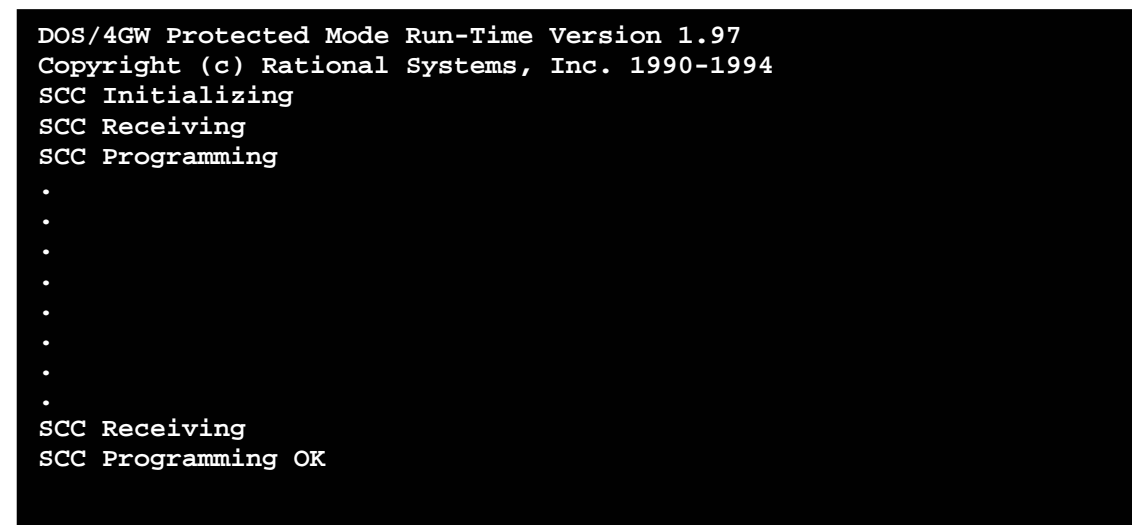

Figure 5 Typical SCC Programming
7. Verify the System Configuration Card programming is completed (See Figure 5).